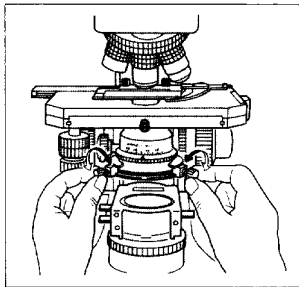
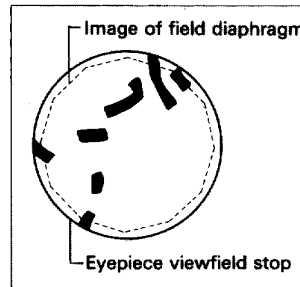

Fig. 11-1
Fig. 11-3
- (2) If the image decenters from the viewfield of the eyepiece, bring it roughly to the center of the viewfield by means of the condenser centering screws (Fig. 11-1 and 2).
- (3) Change to the 40X objective. Focus on the specimen by turning the fine focus knob and form an image of the field diaphragm on the specimen surface by manipulating the condenser focus knob.
- (4) When the image decenters from the viewfield of the eyepiece, bring it to the center of the viewfield by means of the condenser centering screws. At this time, the centering will be facilitated by adjusting the size of the image of the field diaphragm to be slightly smaller than the viewfield of the eyepiece by manipulating the viewfield diaphragm control ring (Fig. 11-3).